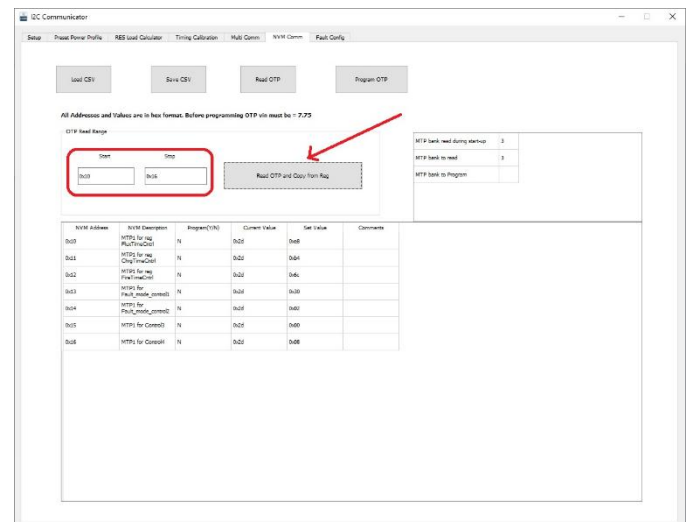

Fig. 3 GUI's NVM Comm screen showing how to read a range of values from the OTP memory
2. Click on the NVM Comm tab of the GUI. Type in the Start and Stop hex addresses (e.g. 0x10) for the OTP Read Range as shown in the red box of Fig.3.
3. Press the button labelled "Read OTP and Copy from Reg" (shown with a red arrow in Fig.3), which reads and displays the existing values of the selected NVM addresses in Current Value column and the